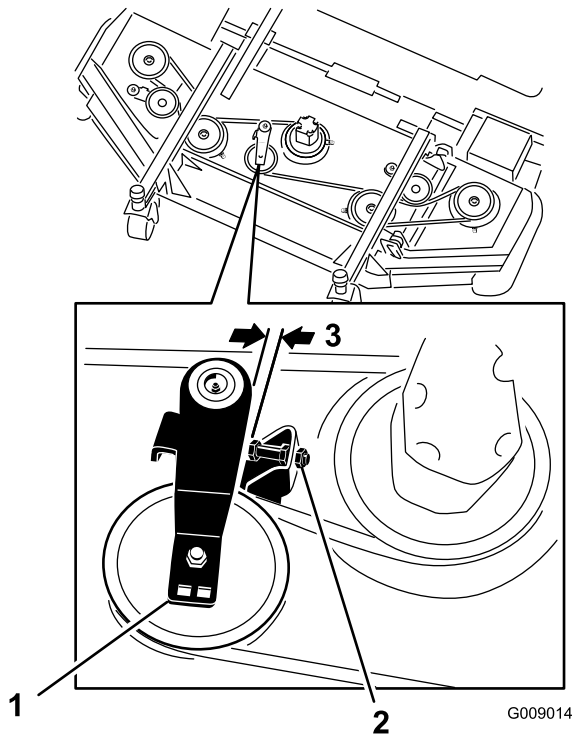

Figure 76
2. On the front deck, loosen the jam nuts on the idler pulley stop screw and thread the stop screw in to the bracket (Figure 76).
3. Using a ratchet wrench or similar tool, move the idler pulley (Figure 76) away from the drive belt to release the belt tension and allow the belt to be slipped off the deck pulleys.